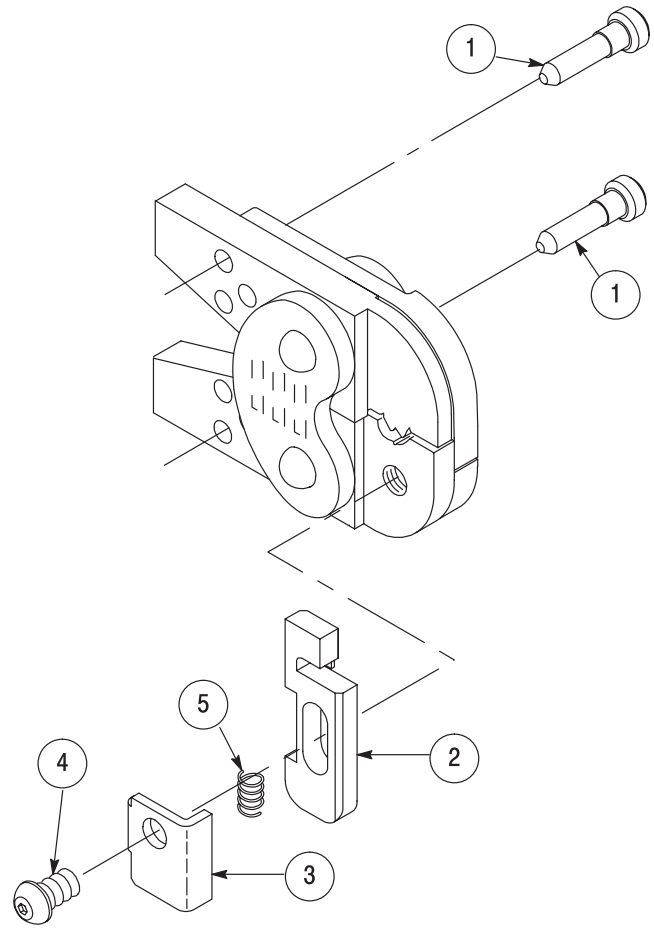

Figure 9
3. Align GO element with wire barrel crimping section. Push element straight into crimping chamber without using force. The GO element must pass completely through the chamber as shown in Figure 9.